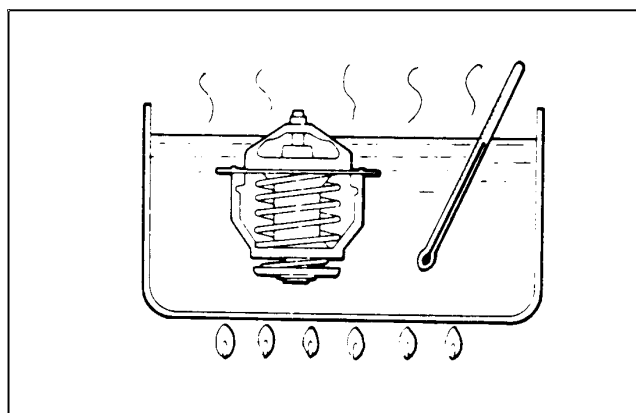

Figure 23
Thermostat Test (Fig. 23)
2. Put the thermostat in a container of water with a thermometer and heat the water (Fig. 23).